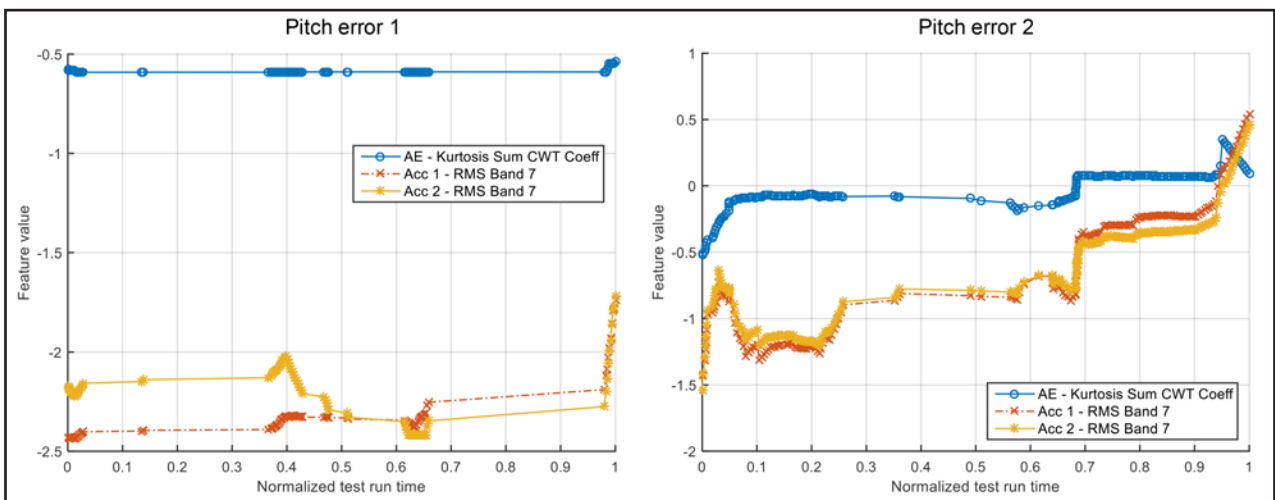

Figure 10 Pitting detection features generated from PE1 and PE2 tests.
**Pitch error (PE) tests.** In the gearset variants PE1 and PE2 (Fig. 10), the feature values generated from the oil temperature sensor did not identify any abnormalities. However, the kurtosis feature of the CWT coefficients generated from the AE sensor and the calculated spectral power densities between the 7th and 8th harmonic of the GMO, generated from the acceleration sensors, provided usable feature values. In the PE1 test it can be observed that the features show a significant value slope near the end of test run time.
(corresponds to 94% of test run time) before the complete pitting damage occurred. The indication is visible using both acceleration sensors and the AE sensor at a motor speed of 2,400 rpm. As shown in the right plot of Figure 10, first abnormalities in the feature values could be detected about 8 hours (corresponds to 68% of test run time) before complete pitting damage. Visual inspections were made, but quantifiable evidence of the pitting initiation requires non-intrusive measurements such as ultrasonic scans or X-ray measurements.